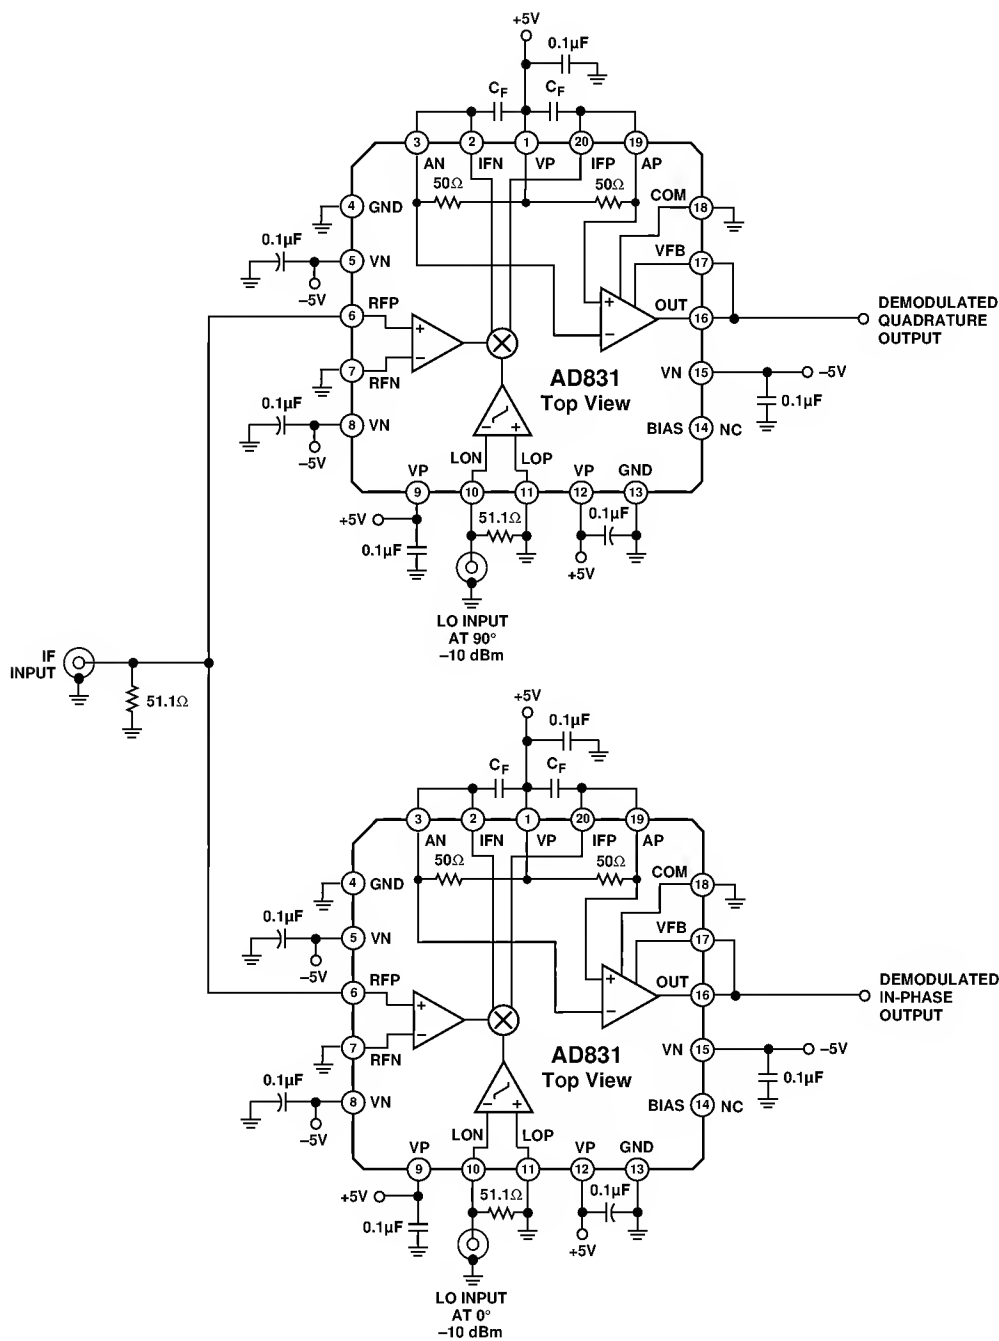

Figure 27. Connections for Quadrature Demodulation
Two AD831 mixers may have their RF inputs connected in parallel and have their LO inputs driven in phase quadrature (Figure 27) to provide demodulated in-phase (I) and quadrature (Q) outputs. The mixers' inputs may be connected in parallel and a single termination resistor used if the mixers are located in close proximity on the PC board.